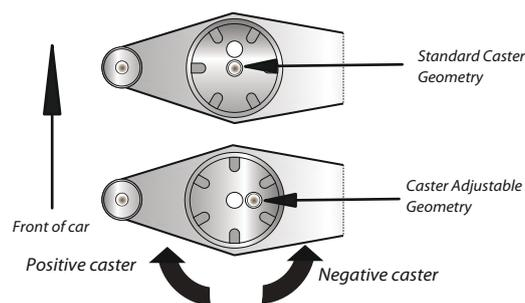

Figure 1: Outer Bush Caster Adjustment
9. After reaching desired camber angle, adjust the caster angle on the inner sleeve with the C54 spanner according to Figure 1.